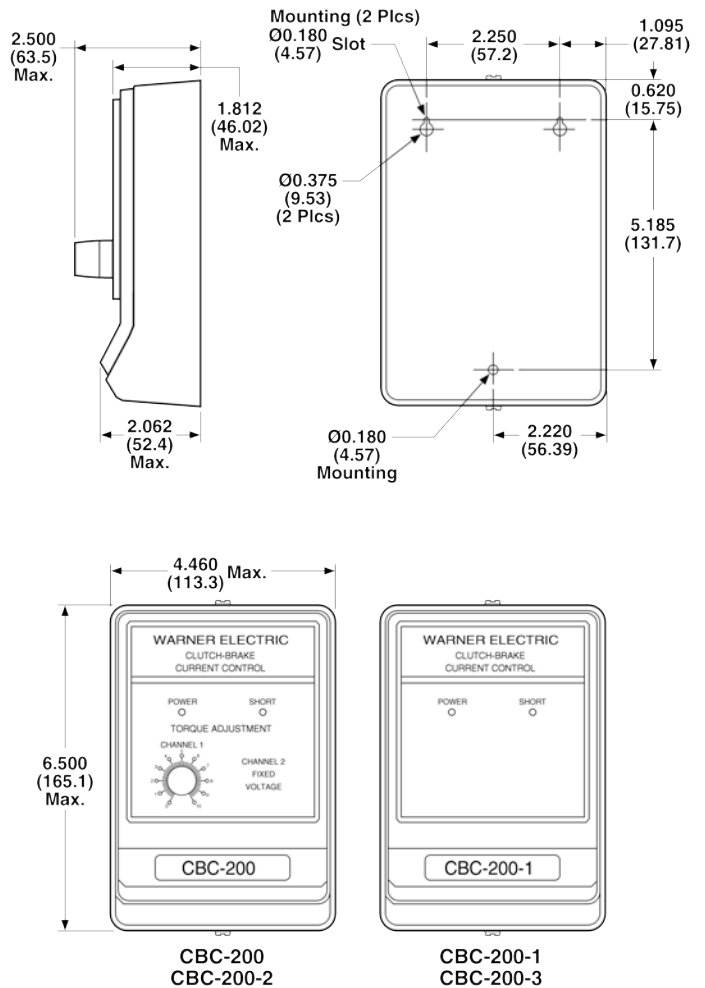

Figure 1
- ❑ 2. Set the control on the mounting surface and mark for the three mounting holes in accordance with "Dimensions." (See Figure 1)